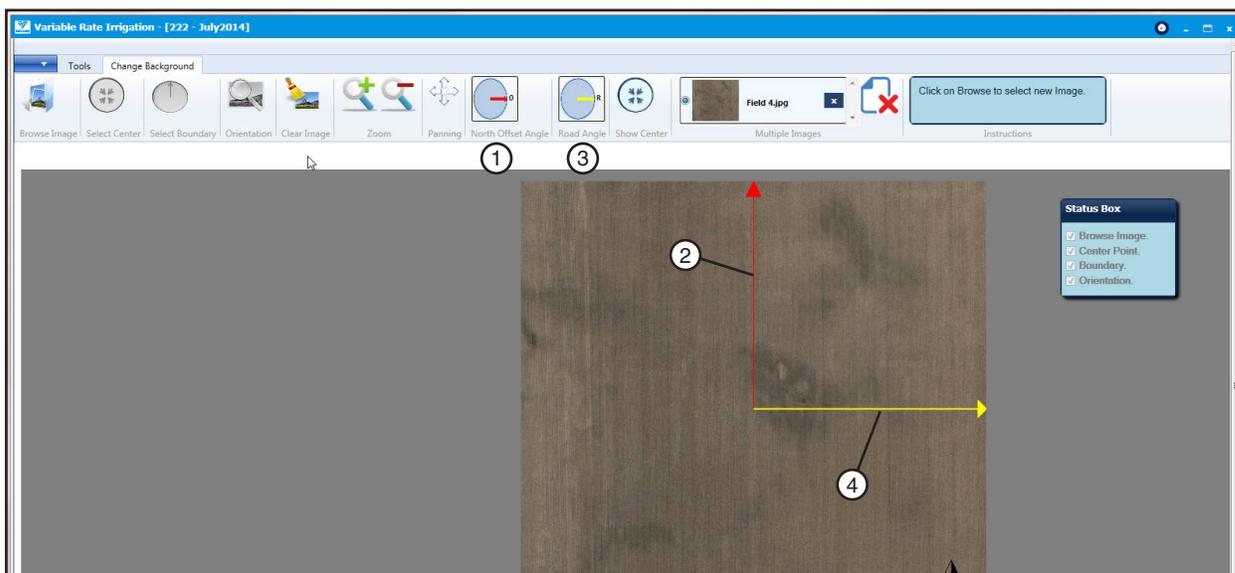

Figure 15-2 1. North Offset Angle Button 2. North Offset Angle at 0° 3. Road Angle Button 4. Road Angle at 90°
6. If you want, you may now click the **North Offset Angle** and **Road Angle** buttons to display these settings. (Refer to Figure 15-2.)